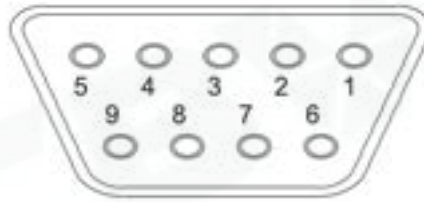

Figure 33 Schematic diagram of pins for RS232/485 and RS485 connectors
- (四) The connectors used for the COM1 RS232/485 interface and COM2 RS485 interface are both D-Sub9 (female connector, with connecting screws of imperial #4-40). Refer to the schematic diagram for the ports Figure 33. For the pin definitions of the ports, please refer to Table 22.